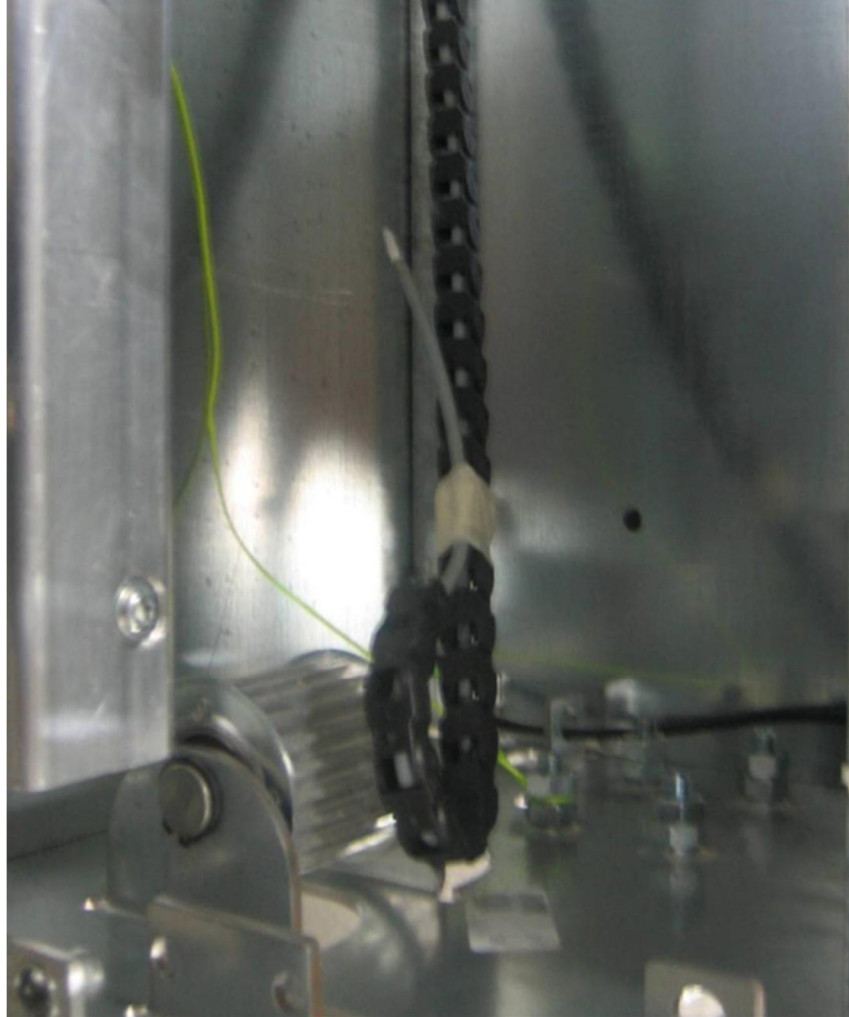

Figure 2
1. Locate the Black plastic energy chain and reversing edge cable in the side column. (See Figure 2)